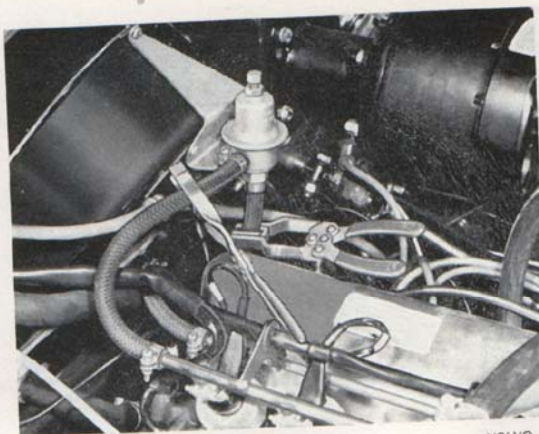

Fig. 2-42. Changing the pressure regulator
1. Place pinchers (SVO 2901) on the hoses next to the pressure regulator, see Fig. 2-42.